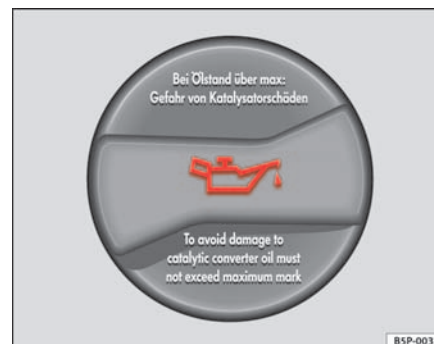

Fig. 124 In the engine compartment: Engine oil filler cap
- Unscrew cap from oil filler opening ⇒ page 177, fig. 124.